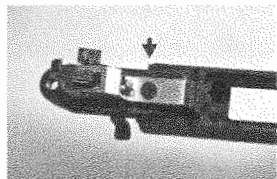

Fig 7, Phillips head mounting screw of two position safety, trigger assembly.
Step 12. Using a Phillips head screw driver of the correct size, turn the mounting screw on the two position safety trigger assembly counter-clockwise until the trigger assembly can be lifted free of the receiver (see Fig 7).